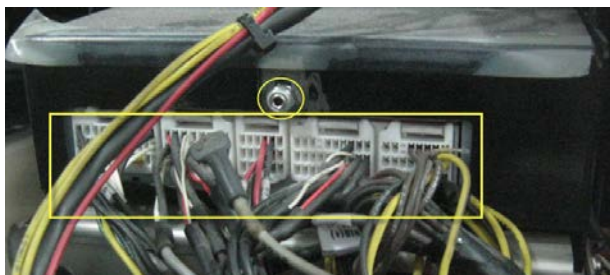

Fig.3 Conectors and retaining hex nut.
2. Using a small flat head screwdriver, disconnect the five (5) connectors at the back of the sound selector (VSS) (Fig.3).
3. Remove the hex nut that holds the sound selector to the dashboard support (Fig.3).